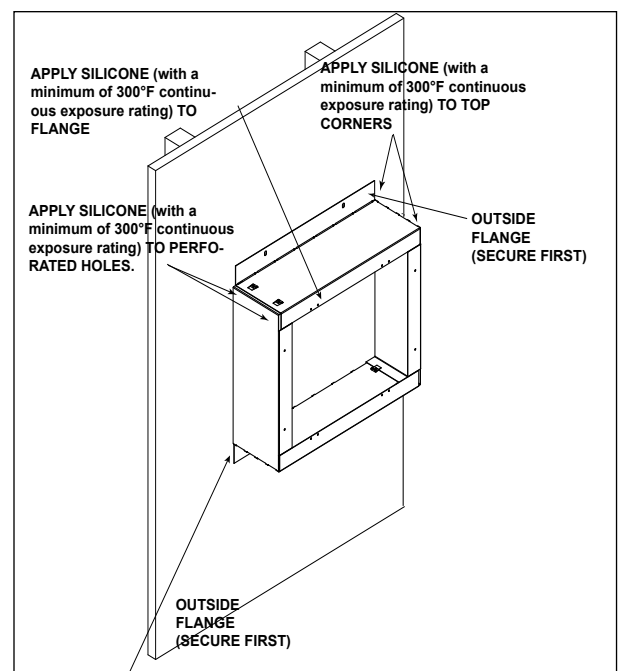

Figure 3.20 PLVP-BEK Attached to Wall
13. Place assembled box over the framed opening in the wall with outside flanges oriented vertically and held tight to the building exterior. See Figure 3.20.
14. Drive two of the supplied screws through opposite ends of the two outer flanges. This will secure the PVLP-BEK extension box to the building and allow for squaring of the PVLP-BEK. See Figure 3.20.